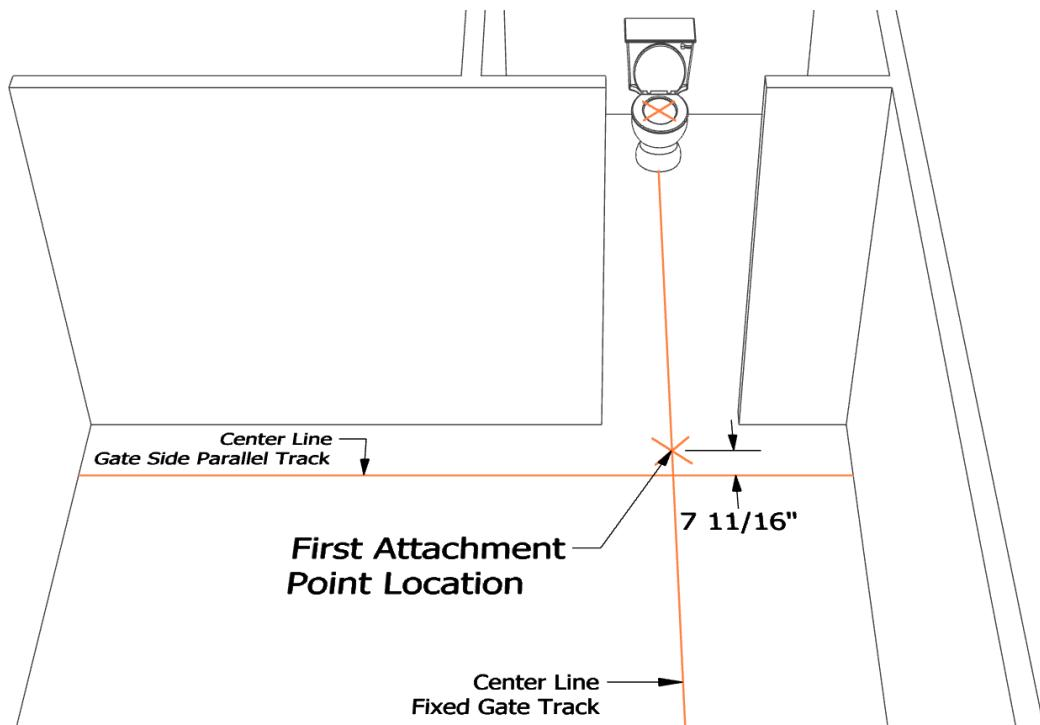

Figure 75: Point $7 \frac{11}{16}$ " Along the Fixed Gate Track Line
- **For a TGS 1000 lbs capacity** (used for any ceiling lift greater than 625 lbs capacity), from the intersection of the two lines just created, mark a point 7 11/16" over along the fixed gate track line (Figure 75).